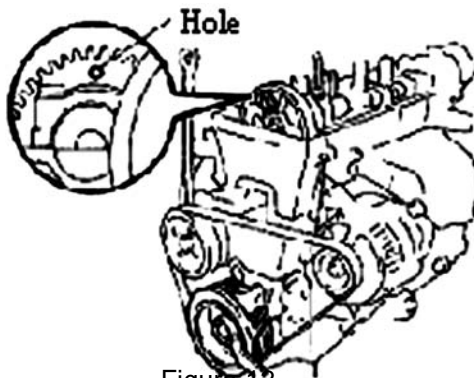

Figure 12
- (1) Turn the pulley to access the hole on the camshaft drive gear where the counter gear is installed. See (Figure 12).